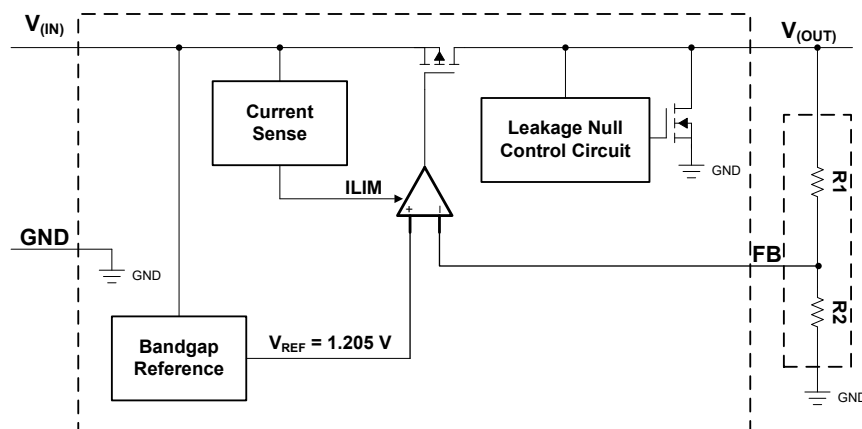

Figure 6-1. Functional Block Diagram—Adjustable Version
- (1) Minimum $V_{IN} = V_{OUT} + V_{DO}$ or the value shown for *Input voltage* in this table, whichever is greater.
- (2) For adjustable device, output accuracy excludes the tolerance and mismatch associated with external resistors used for setting up the output voltage level.
- (3) See Figure 6.1. The TPS715 family employs a leakage null control circuit. This circuit is active only if output current is less than pass FET leakage current. The circuit is typically active when output load is less than $5\text{ }\mu\text{A}$, V_{IN} is greater than 18 V , and die temperature is greater than 100°C .
- (4) See Section 10.1.2 for clarification about M3 and Non-M3 devices.